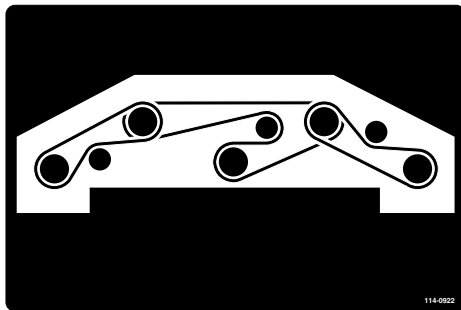

Figure 82
- Route the new belt around the spindle pulleys and idler pulley assembly as shown in Figure 82.